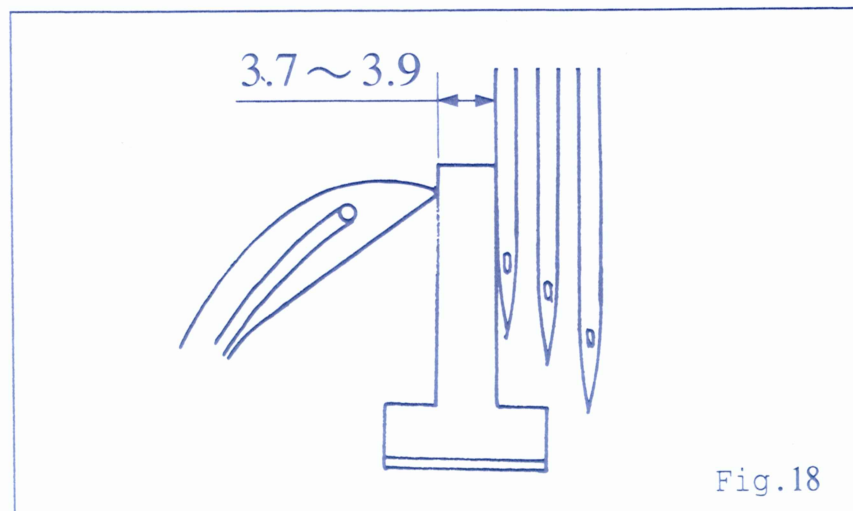

Fig.18
2. Please move the Needle Bar to the lowest position, setting the distance between the point of Loper and shortest left needle is 3.7mm~3.9mm.(Fig18)